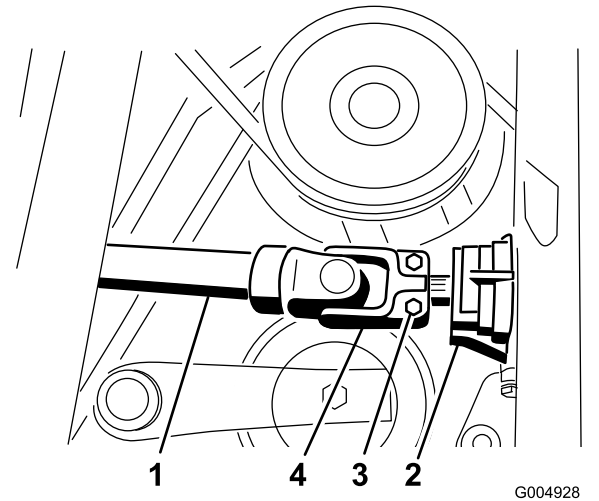

Figure 36
- Loosen the PTO drive shaft bolts and nuts. Remove the roll pin and pull the drive shaft off of the gearbox shaft (Figure 36).